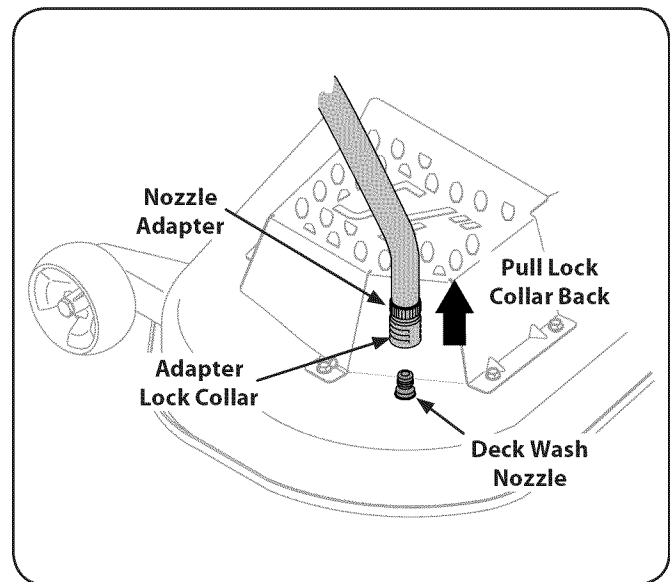

Figure 6-1
- Pull back the lock collar of the nozzle adapter and push the adapter onto one of the deck wash nozzles at either end of the mower deck. Release the lock collar to lock the adapter on the nozzle. See Fig. 6-1.